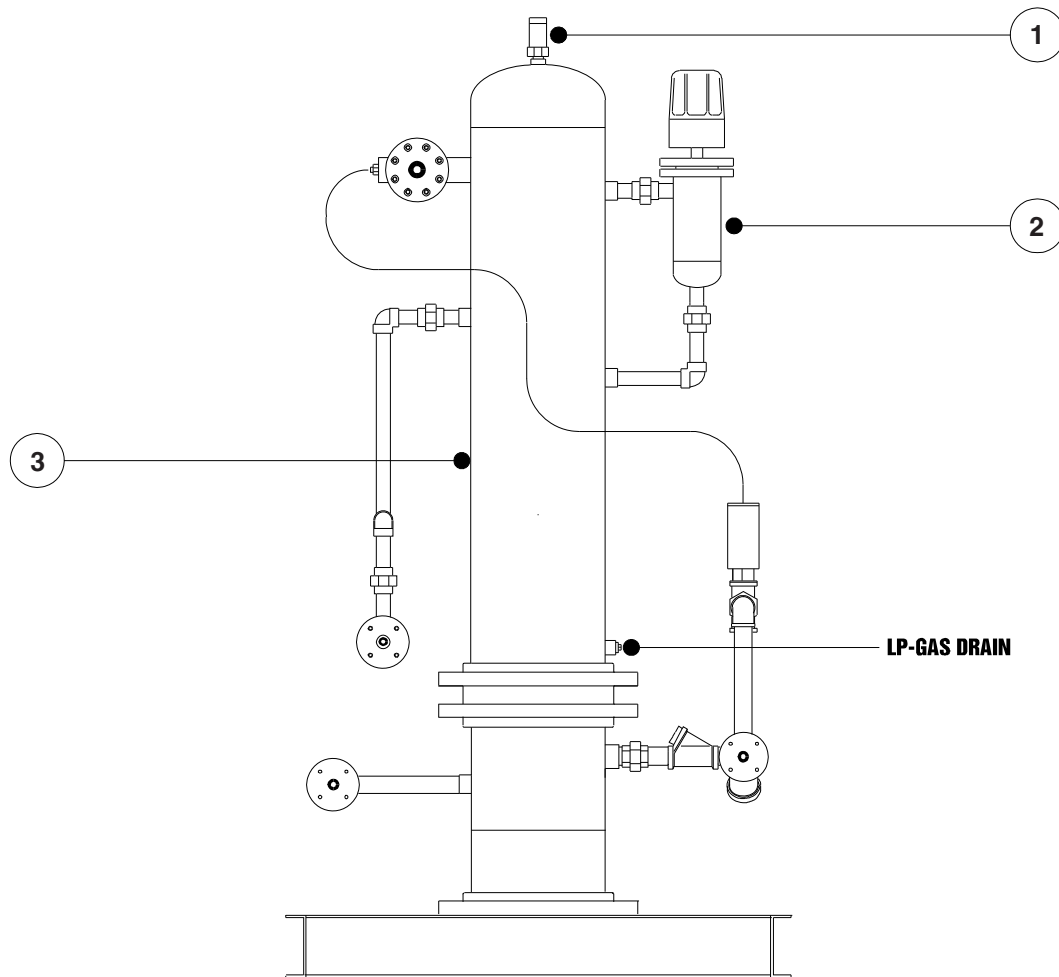

Figure 2-2 - Typical VS Series Vaporizer System
2.04 Figure 2-2 illustrates a typical VS Series Vaporizer system and is provided with key number callouts for the liquid level float assembly, safety relief valve and the heat exchange shell. Associated